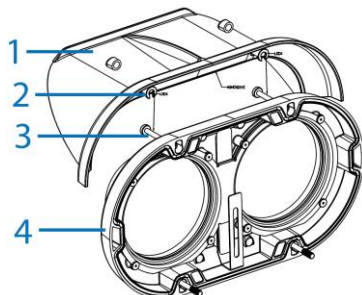

Figure 8
- Hold the sunshield cover (1) (Figure 8) up to the dome cover (4) (Figure 8) and push the two clasps (2) (Figure 8) on the sunshield cover down onto the two captive screws (3) (Figure 8) on the dome cover.